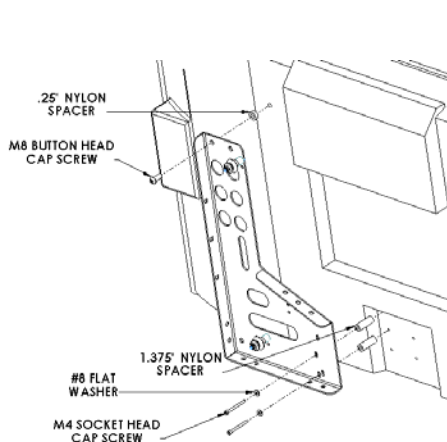
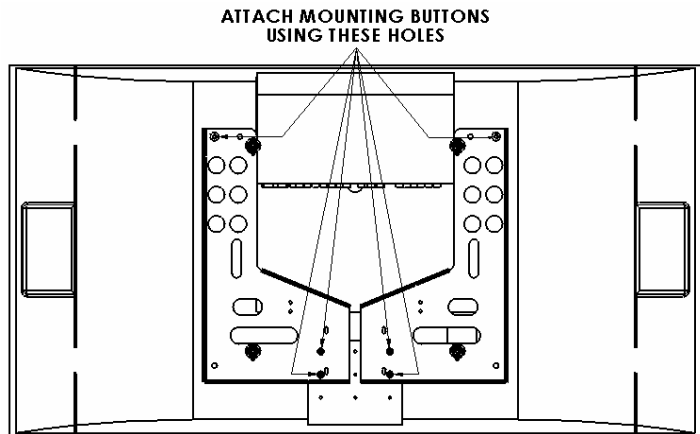

Figure 4
Figure 5
3. Using screws and nylon spacers, secure brackets to display. Make sure to use the #8 flat washers on lower holes (See Figure 4 & Figure 5). Route speaker wires through holes on sides of each bracket.